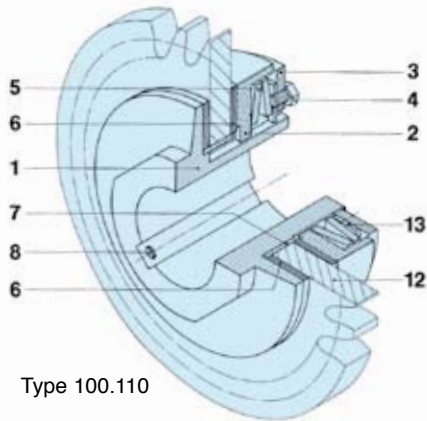

Fig. 2 Type 100.110
The drive element (12) (chain sprocket or V-belt pulley) is placed on the bushing (7) as shown in Figure 2 and clamped between the friction linings (6) with the aid of the thrust washer (2), the cup springs (5) and the adjusting nut (3) with the lock washer (13). The more powerfully the cup springs (5) are compressed by the adjusting nut (3), the higher the torque at which the drive element (12) slips. The precise torque adjustment operation is described on page 20.